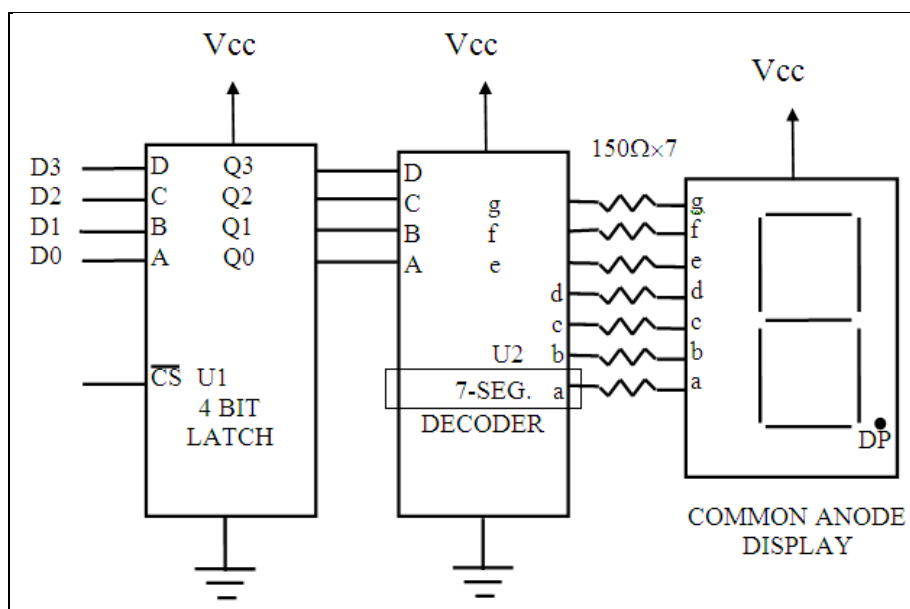

Fig. 3.5-9 Direct Driven Display with Latch/Decoder Driver
Fig. 3.5-9 shows the BCD-to-7 segment decoder to drive the display segments, directly through the 7 current limiting resistors in series. The number 8 is lit when all seven segments are illuminated. If each segment draws **22mA**, the total current is **22mA × 7 = 154mA** per digit, when each segment is current limited by **160Ω**, using 5VDC source and allowing 1.5VDC across each segment. For a 6-digit LED display driven directly, the worst case total current will be **154mA × 6 = 924mA**.
A six digit direct driven 7-segment display with an additional decimal point, as shown in Fig. 3.5-9, has 100Ω current limiting resistors for TTL compatible driving circuitry. Determine the worst case DC current flowing through the display section. The worst case occurs when all the 7-segments plus the decimal point are lit. Allow 1.5V voltage drop (VD) across each LED segment to be lit and 4.7V TTL driver output (Vo).